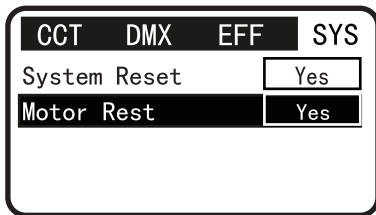

Fig. 11 Motor reset option
- › The motor is reset by turning and pressing the "MENU/ENTER" knob and pressing the "SYS" → "Motor Reset" path, the motor reset process is shown in Figure 11 to Figure 13